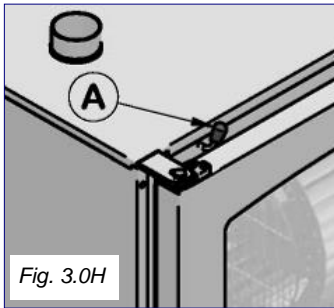

Fig. 3.0H
**3.0H Oven relief valve:** its job is to adjust humidity inside the cooking chamber . The valve is manually activated acting on the knob (A) (Fig.3.0H)on top of the door.